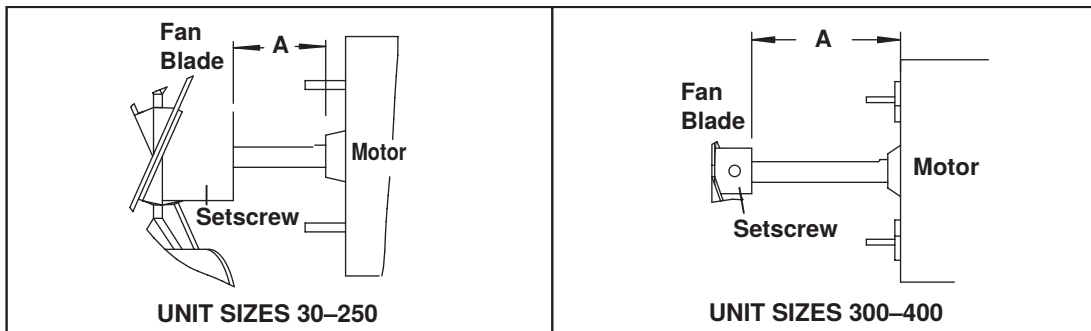

**Figure 23. Ignitor Spark Gap**
- The spark gap (see Figure 23) must be maintained to 1/8 inch.